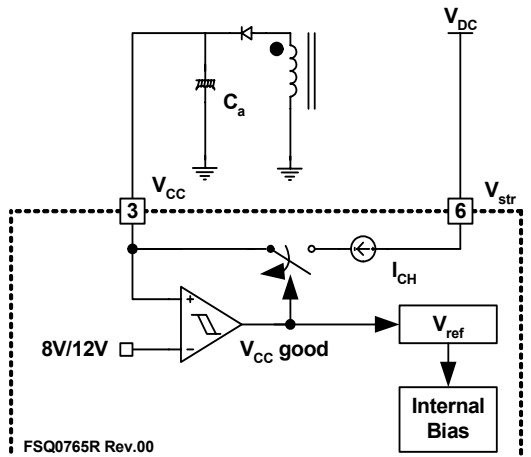

Figure 22. Start-up Circuit
1. Start-up: At start-up, an internal high-voltage current source supplies the internal bias and charges the external capacitor (C_a) connected to the V_{CC} pin, as illustrated in Figure 22. When V_{CC} reaches 12V, the FPS™ begins switching and the internal high-voltage current source is disabled. The FPS continues its normal switching operation and the power is supplied from the auxiliary transformer winding unless V_{CC} goes below the stop voltage of 8V.